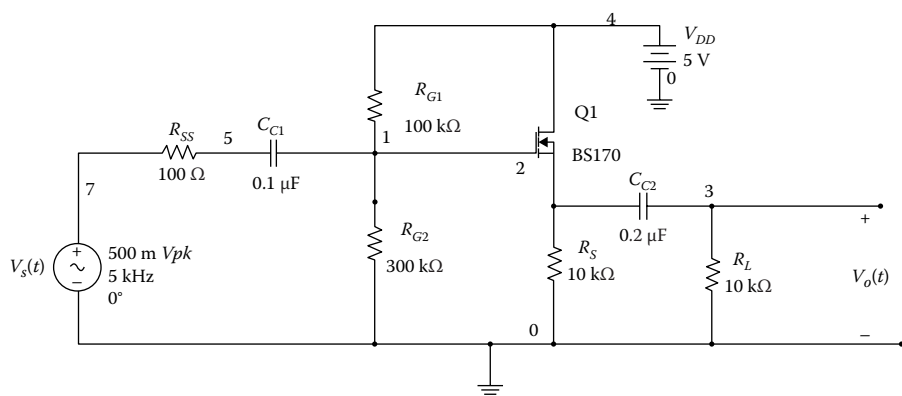

FIGURE P7.13
Problem 7.13 For the circuit shown in Figure P7.13, use the Analog Discovery board to find the voltage gain at 5 kHz. Determine (1) the magnitude response of the circuit, (2) low cut-off frequency, (3) high cut-off frequency, and (4) bandwidth of the amplifier.